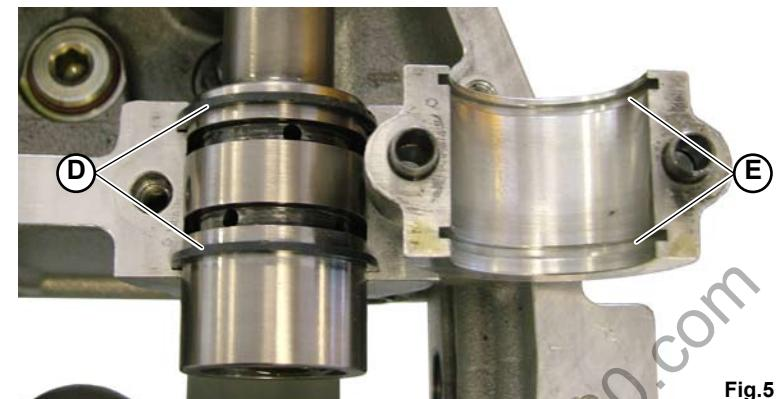

Fig.5
- Position the supports in the correct order from no. 1 to no. 14; when assembling the first support, make sure that the oil seals (**D-Fig.5**) have been positioned in their respective housings (**E-Fig.5**).